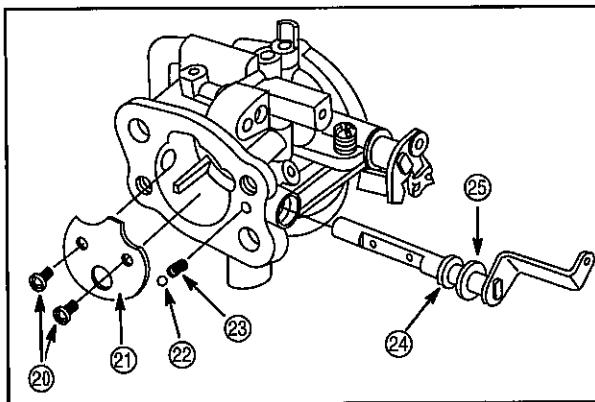

Fig. 48
12. Remove two screws (20), choke plate (21), shaft, seal (24) and washer (25), **Fig. 48**.